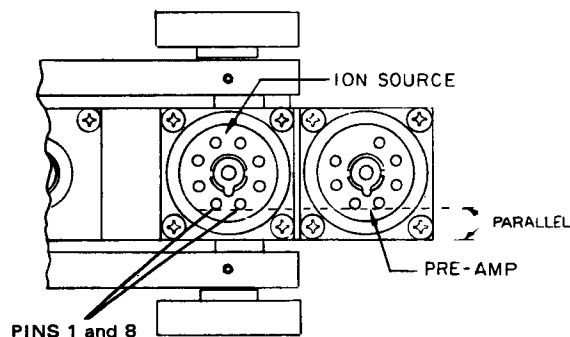

Figure 6-29.
12. Wipe the new O-ring and mating surfaces with clean lint-free cloth and place new ion source in cavity. Locating pin should be approximately in center of guide hole. Be sure that pins 1 and 8 are parallel to the sidewall of the spectrometer tube (Figure 6-29). Tighten hold-down flange evenly and firmly.